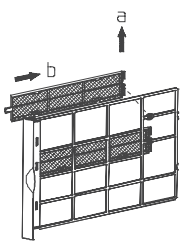

Fig. 19
- Remove the 2 purifying filter frames from the main filter (See Figure 19).
PURIFICATION FILTER REPLACEMENT (See Figures 19, 20, 21)
- Remove the two purifying filter frames from the main filter (See Figure 19).